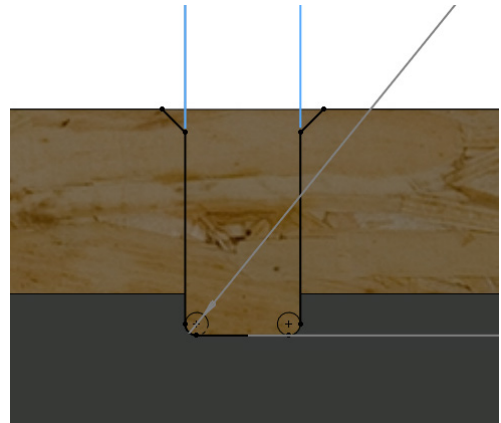

Figure 35 – Heat exchanger final position.
2. Drill 2 No. 10mm holes as indicated, jigsaw out remainder of shape leaving radiused corners at bottom. Chamfer top corners as shown to aid installation – *see figure 35*.